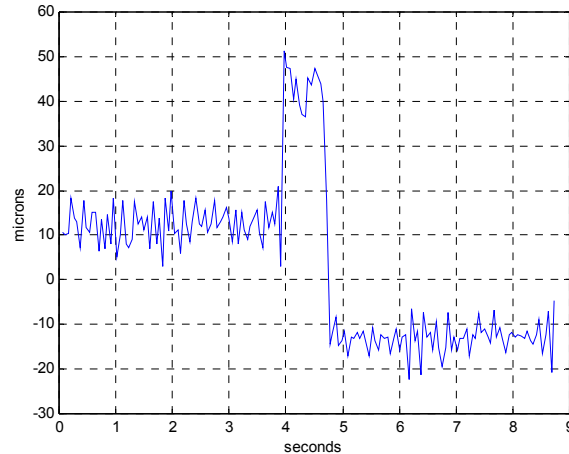

Figure 18, Axes Optimally Tuned Screen
- Refer to **Figure 18**. Axes optimally tuned reported a retract lag of 51 microns.